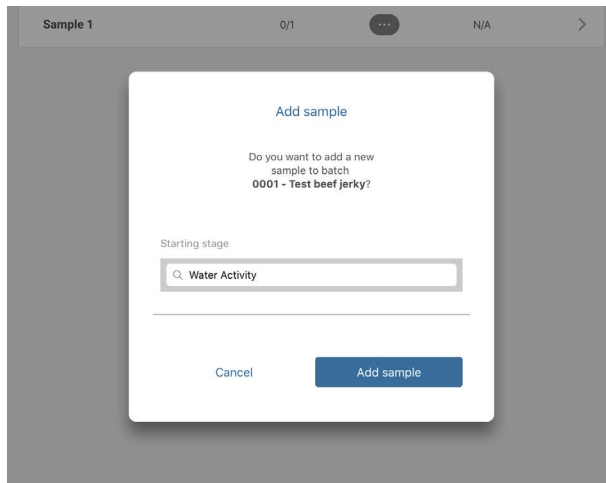

Figure 48 Add sample popup screen
4. Select the plus symbol in the blue circle in the lower left corner of the Batches screen to open the Add sample popup window (Figure 48).
5. Select the **Add sample** button (Figure 48).